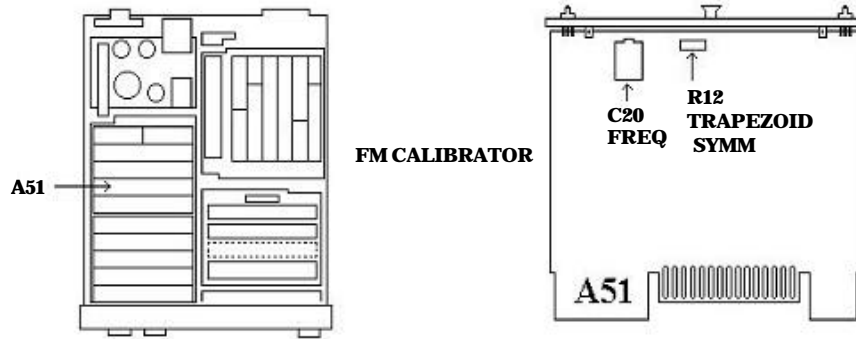
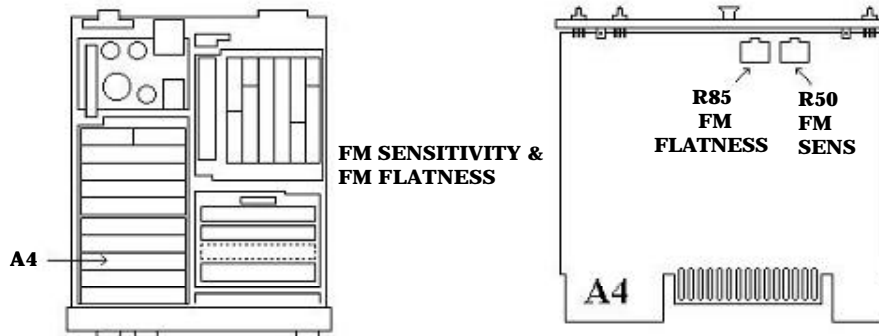
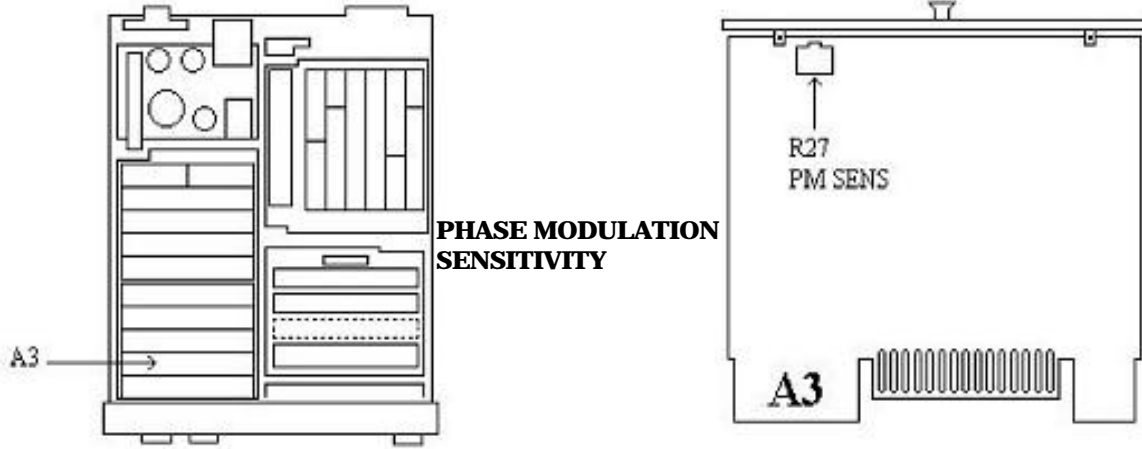

Figure 8. A51 board.
Figure 9. A4 board.
Figure 10 A3 board.
- (11) Disconnect all external equipment from TI and connect TI sensor module to **TI CALIBRATION AM/FM OUTPUT.**
- (12) Press TI keys as listed in (a) through (d) below:
- (13) Adjust A51C20 FREQ (fig. 8) for a TI display between 1009000 and 1011000.
(14) Press TI keys as listed in (a) through (d) below:
(15) Alternately switch TI **DETECTOR** between **PEAK+** and **PEAK-** and note the display for each detector.
(16) Adjust A51R12 TRAPEZOID SYMM (fig. 8) until the readings are the same for both detectors within ± 0.010 kHz. (R)
(17) Press TI keys as listed in (a) and (b) below:
(18) Allow TI to take at least two readings.
(19) Adjust A4R50 FM SENS (fig. 9) for a displayed indication between 99.95 and 100.05 percent. (R)
- (24) Set AM/FM test source **TEST MODE** switch to **FM**.
- (25) Adjust AM/FM test source **CARRIER FREQUENCY TUNE** for a TI indication of approximately 400 MHz.
- (26) Press TI keys as listed in (a) through (c) below:
- (27) Adjust calibrator level for a TI indication of 280 kHz.
- (28) Press calibrator **NEW REF** key.
- (29) Press TI **RATIO** key.
- (30) Change calibrator output frequency to 150 kHz.
- (31) Adjust A4R85 FM FLATNESS (fig. 9) for a display between 99.9 and 100.1 percent. (R)
- (32) Press TI keys as listed in (a) through (c) below:
- (33) Set calibrator for a wideband output frequency of 1 kHz at an amplitude of 500 mV.
- (34) Move TI sensor module from AM/FM test source **FM OUTPUT** to **FM/4 OUTPUT**.
- (35) Adjust AM/FM test source **CARRIER FREQUENCY TUNE** for a TI indication of approximately 100 MHz.
- (36) Press TI keys as listed in (a) and (b) below:
- (37) Adjust calibrator output for a TI indication 100 kHz.
- (38) Press TI **MEASUREMENT F M** key.
- (39) Adjust A3R27 PM SENS (fig 10) for a TI indication of 100 ± 0.2 rad. (R)